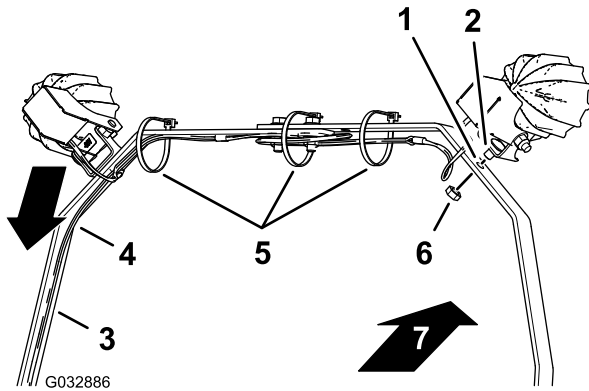

Figure 12
1. Align the light fixtures with the lenses of the lights toward the front of the machine (Figure 12).
2. Align the harness along the left light-bar strap as shown in Figure 12.
3. Align the short carriage bolt that you assembled to the mount bracket for the LED light with the hole in the light-bar strap (Figure 12).
4. Assemble the LED light and short carriage bolt to the light-bar strap with a nut (Figure 12).
7. Secure the wire harness to the light-bar straps with cable ties as shown in Figure 12.